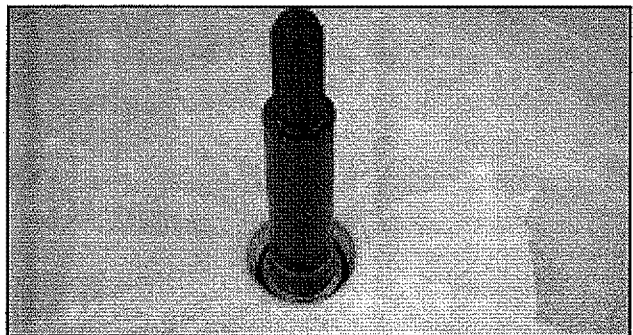

FIGURE 15
23. Install new Drive Shaft (make sure wear sleeve is bottomed out on Top Bearing). See *Figure 15*.